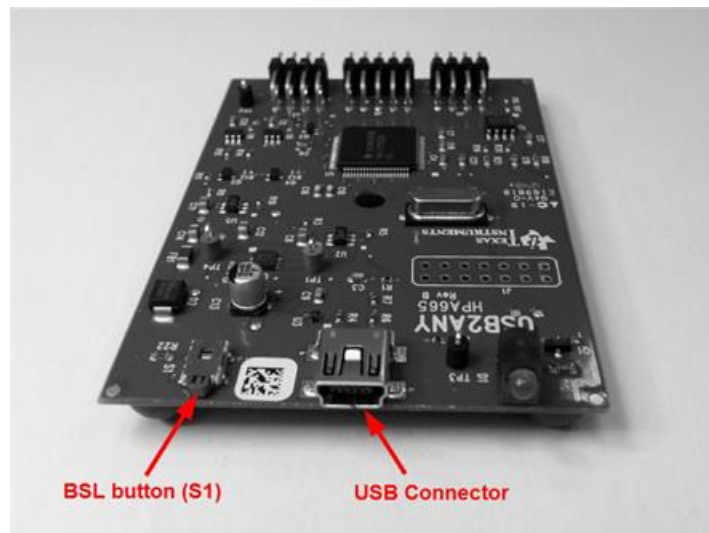

Figure 32. USB2ANY Without Enclosure
8. The dialog will display instructions for preparing the USB2ANY for the firmware download. Follow the instructions, referring to Figure 32 and Figure 33 for locations of the BSL button (S1 switch) and USB connector. If the USB2ANY is in an enclosure, you will need to insert an implement (a paper clip works great) into the small hole to press the button.